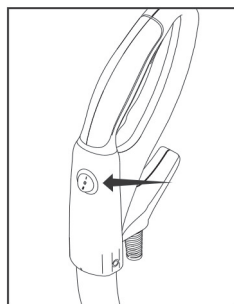

Fig. 2
The power switch located on the vacuum handle, is a three-way switch (Fig. 2). The middle position (O) is the "Off" setting, the rear position (I) is the "On" setting and the forward position (II) is for "Maximum Power" (Fig. 3).